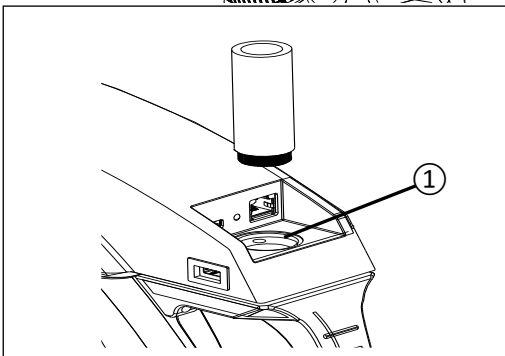
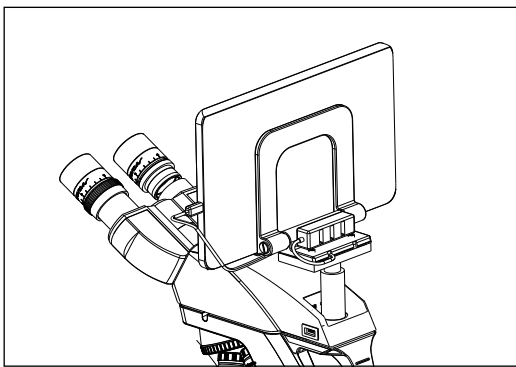

Fig.32
Fig.33
Open the hole cover plate at the back of Digital viewing head, screw the support rod sleeve into the threaded mouth ① as shown in FIG. 32, and then insert the plate attachment as shown in FIG. 33.